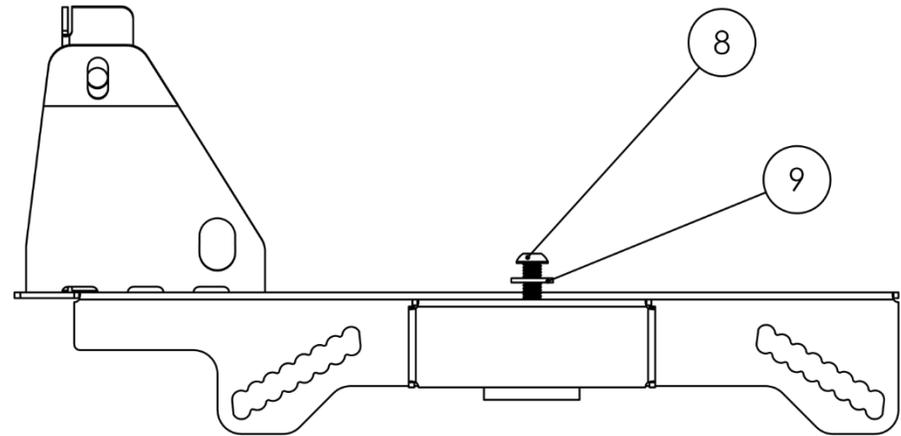

Figure 4
- 2. Install the base of the rack.** Begin the installation of the Base Rail (Item No. 3) by bringing the Fleetside Clamp (Item No. 6) into the housing. Make sure that the holes found on the Clamp and the clamp housing line up concentrically. As shown in Figure 4, finish securing the Base Rail by using a 2" Button Head Screw (Item No. 8) and Metal Washer (Item No. 9). **DON'T forget to apply a little grease to the screws before tightening or it may be hard to remove the nuts later.**